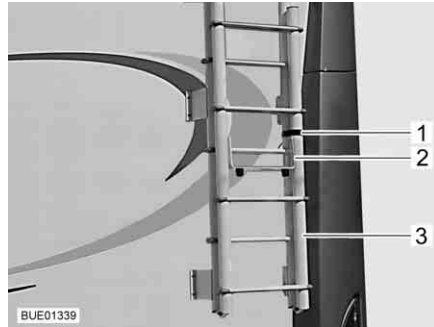

Fig. 1 Ladder folded upwards
- Open the strap (Fig. 1,1) on the ladder (Fig. 1,3) at the rear of the vehicle.
- Fold out the guard rail (Fig. 1,2).